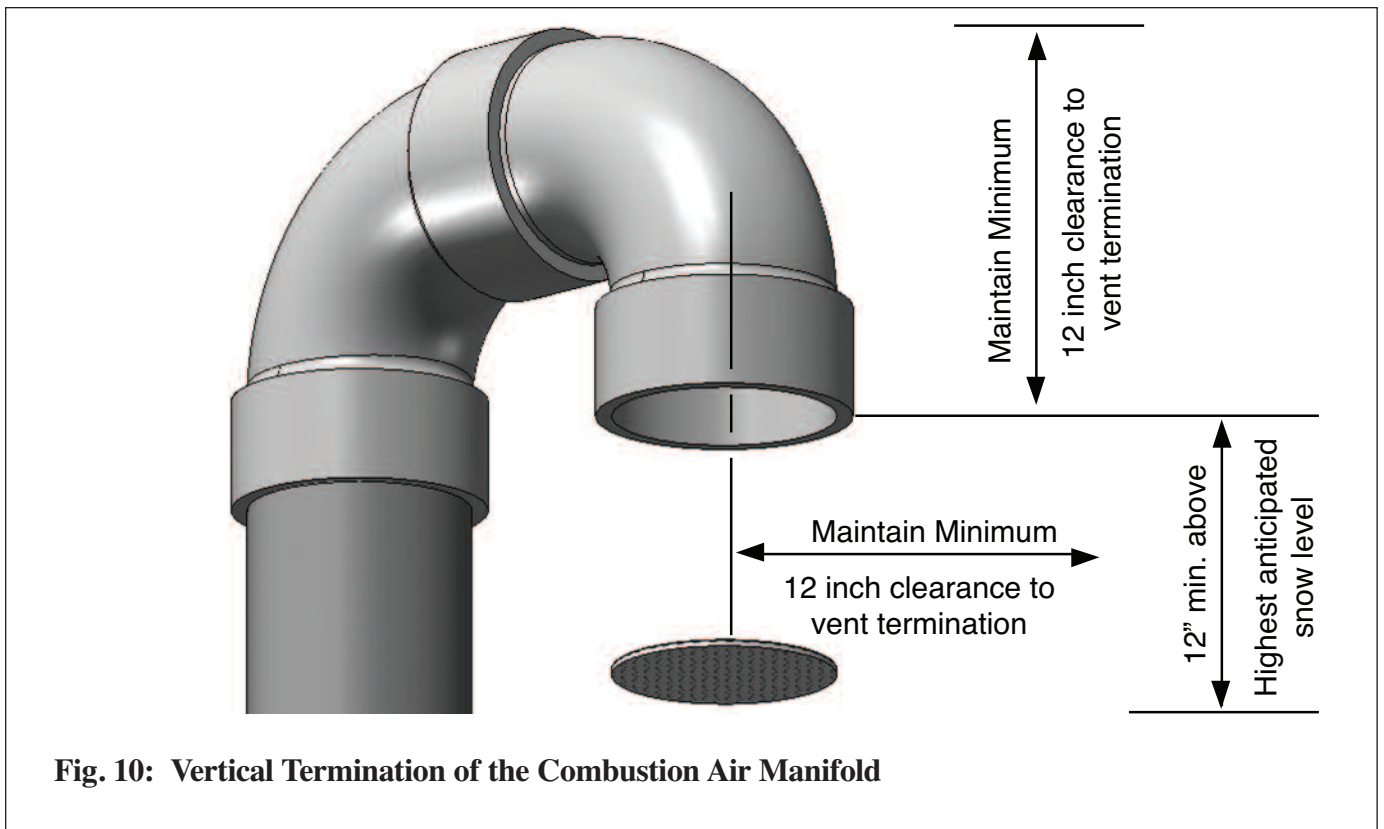

Fig. 10: Vertical Termination of the Combustion Air Manifold
3. The combustion air manifold must terminate vertically in a configuration as shown in Fig. 10.